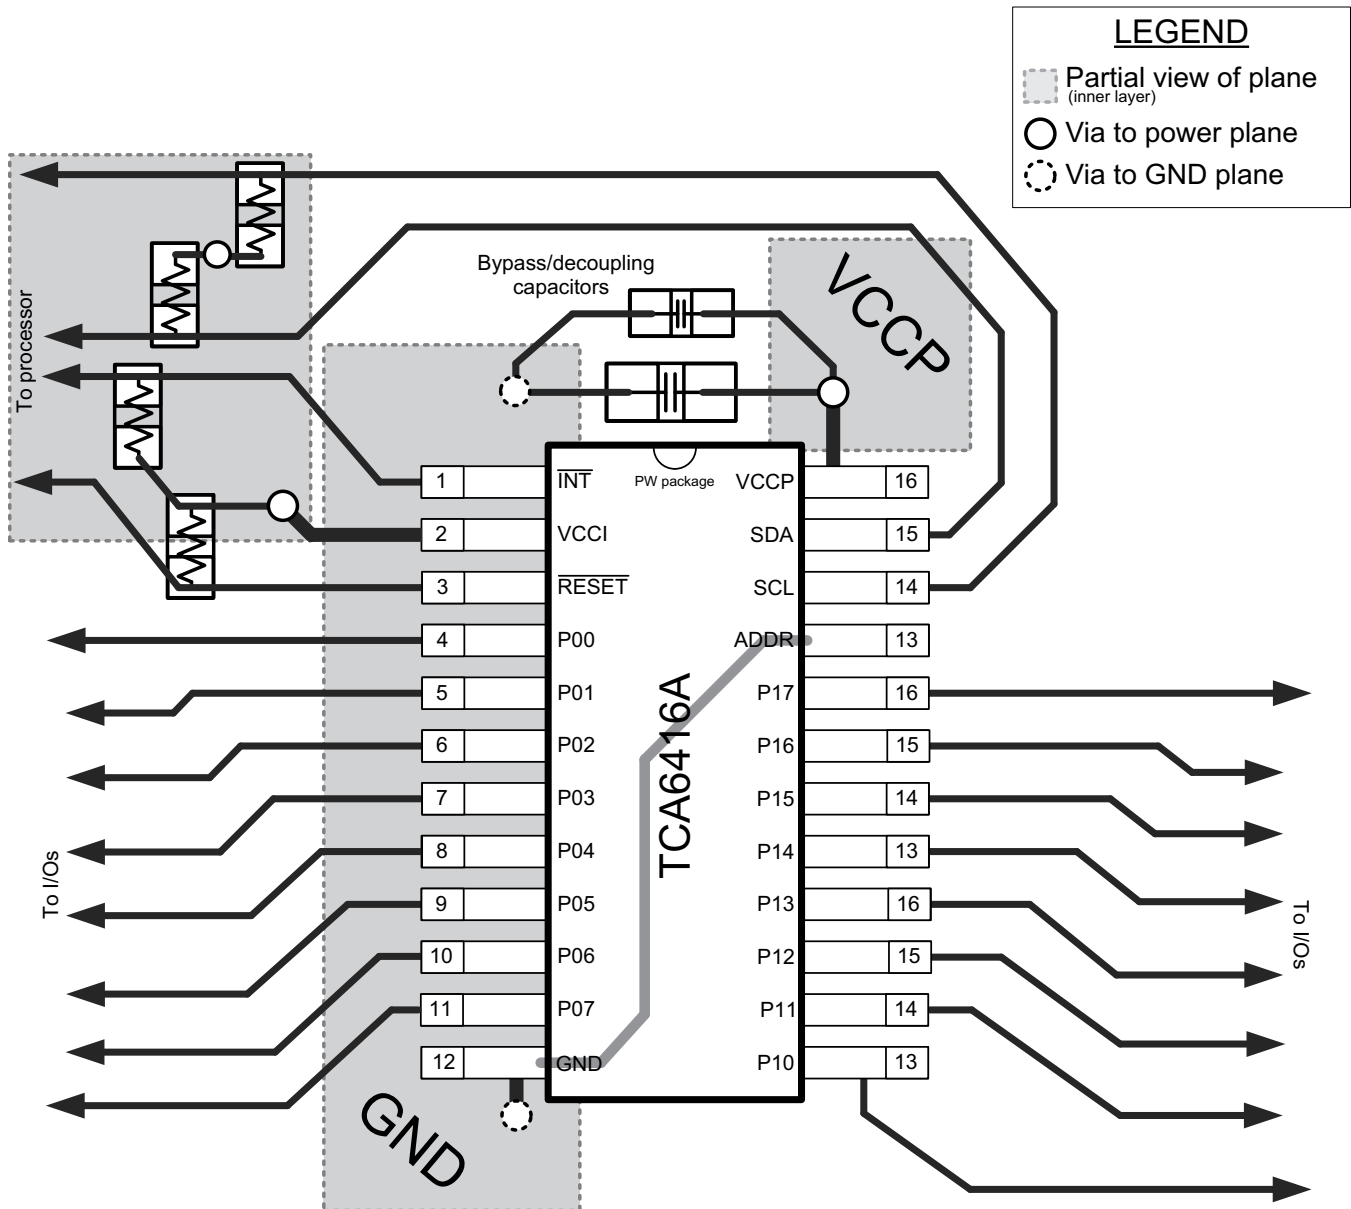

Figure 42. TCA6416A Layout
In all PCB layouts, it is a best practice to avoid right angles in signal traces, to fan out signal traces away from each other upon leaving the vicinity of an integrated circuit (IC), and to use thicker trace widths to carry higher amounts of current that commonly pass through power and ground traces. By-pass and de-coupling capacitors are commonly used to control the voltage on the VCCP pin, using a larger capacitor to provide additional power in the event of a short power supply glitch and a smaller capacitor to filter out high-frequency ripple. These capacitors should be placed as close to the TCA6416A as possible. These best practices are shown in Figure 42.
For the layout example provided in Figure 42, it would be possible to fabricate a PCB with only 2 layers by using the top layer for signal routing and the bottom layer as a split plane for power ( $V_{CCI}$  and  $V_{CCP}$ ) and ground (GND). However, a 4 layer board is preferable for boards with higher density signal routing. On a 4 layer PCB, it is common to route signals on the top and bottom layer, dedicate one internal layer to a ground plane, and dedicate the other internal layer to a power plane. In a board layout using planes or split planes for power and ground, vias are placed directly next to the surface mount component pad which needs to attach to  $V_{CCI}$ ,  $V_{CCP}$ , or GND and the via is connected electrically to the internal layer or the other side of the board. Vias are also used when a signal trace needs to be routed to the opposite side of the board, but this technique is not demonstrated in Figure 42.